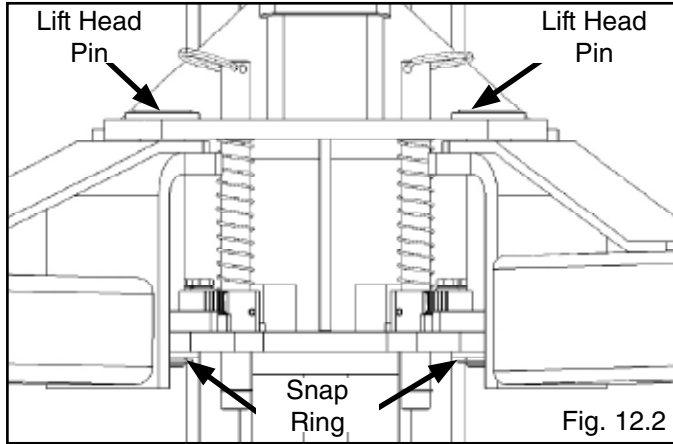

Fig. 12.2
3. Install the snap ring into the groove in the lift head pin on under side of the lift head. (See Fig. 12.2)